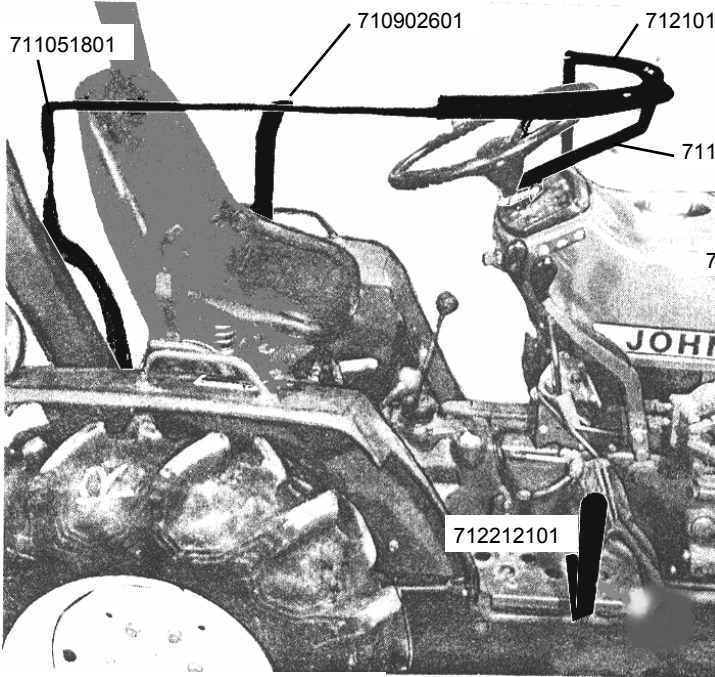

Figure 1
1. Place two (2) # 710902901 Collars around steering column and attach # 711050801 Mount Bracket with 5/16" U-bolt and nuts. See Figures 1 & 2
2. Attach # 712212101 Pedal Guard to right side of platform so Motor Cover will be held away from brake pedal. Attach Pedal Guard to existing hole in platform using 3/8x1 1/2" hex bolt, cupped washer and nut. See Figure 1
3. Place Motor Cover over tractor. Insert # 712101001 Yoke into wide hem at top of Motor Cover. Attach Yoke to Mount Bracket using two (2) 1/4x3/4" hex bolts and nuts. Place bolt heads to front and nuts to rear of assembly. See Figure 1 & 2
See Figure 1 & 3